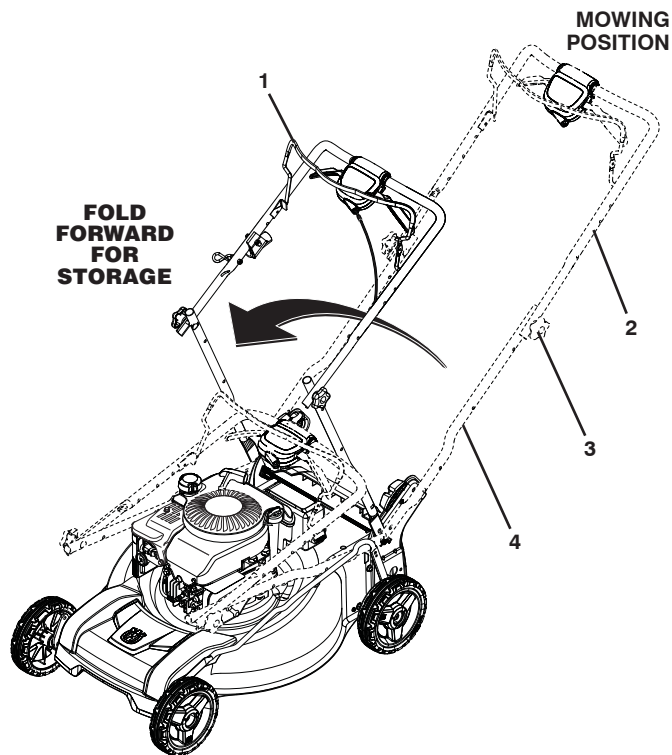

Figure 28
1. Loosen the two (2) handle knobs on sides of the upper handle and allow handle to fold down to the rear (Figure 28).